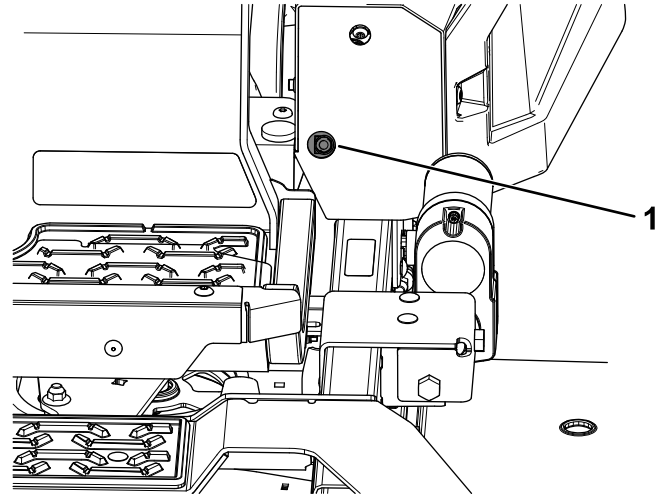
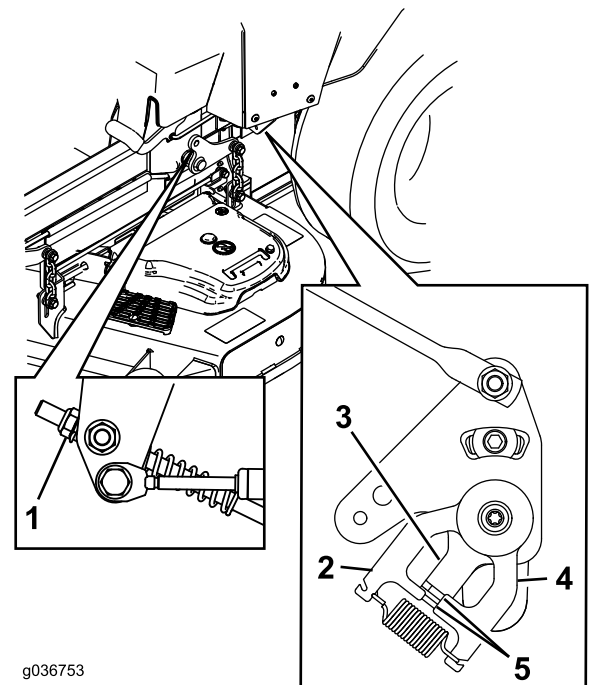

Figure 70
Figure 71
11. Adjust the pump-control-rod lengths by rotating the nut in the appropriate direction until the wheels slightly creep in reverse (Figure 70 and Figure 71).